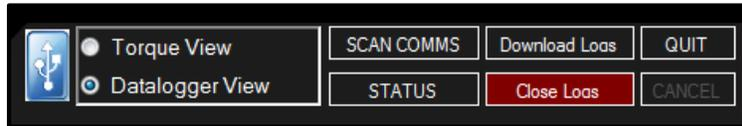

Figure 5.4-1: Close Logs Button
2. Select **“Close Logs”** located under the **“Tool”** menu or press the **“Close Logs”** button on the bottom of the Main Screen (Figure 5.4-1).